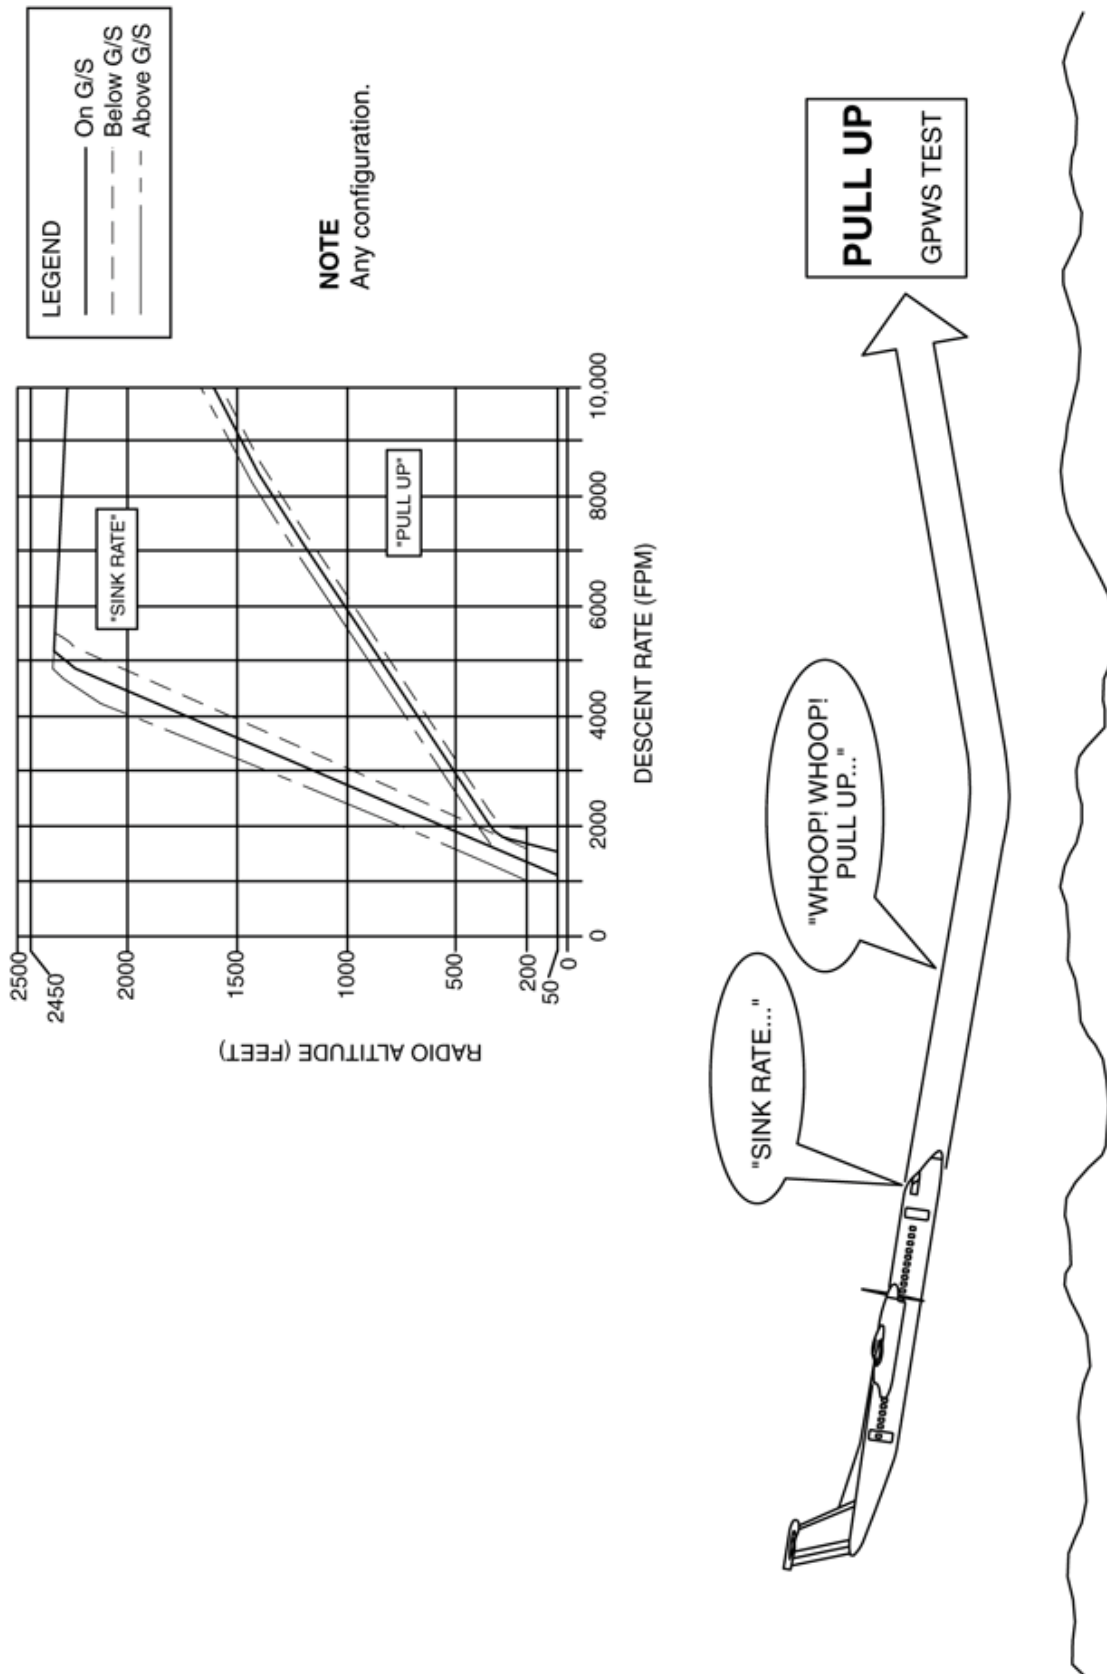

Figure 12.15-50 MODE 1 - Excessive Descent Rate
The Mode 1 condition (Figure 12.15-50) gives indications for excessive rates of descent with respect to the aeroplane height above terrain. The indications are given well ahead of the possible impact with the ground. The GPWS computes the possible flight into terrain from the Radio Altitude (RA) and Air Data Unit (ADU) Barometric Decent Rate (FPM) data.